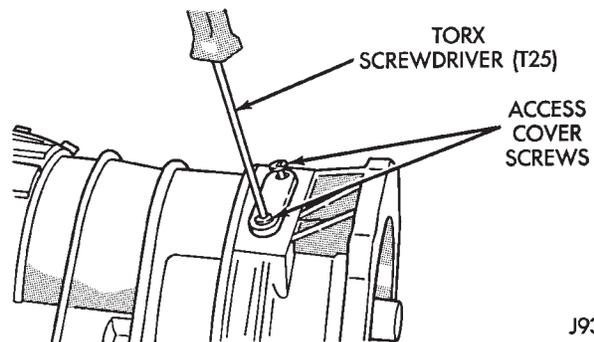

Fig. 217 Access Cover Screw Removal/Installation
(3) Remove Torx head screws that attach access cover and gasket to overdrive case (Fig. 217).